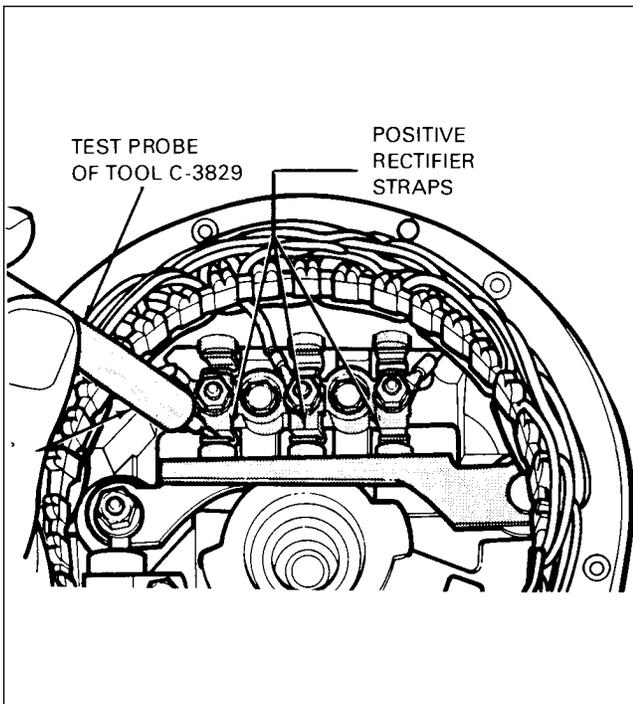

Figure 24-5. Testing Positive Rectifiers With C-3829 Tester
**TESTING OF POSITIVE RECTIFIERS USING C-3829 TESTER.** (Refer to Figure 24-5.)